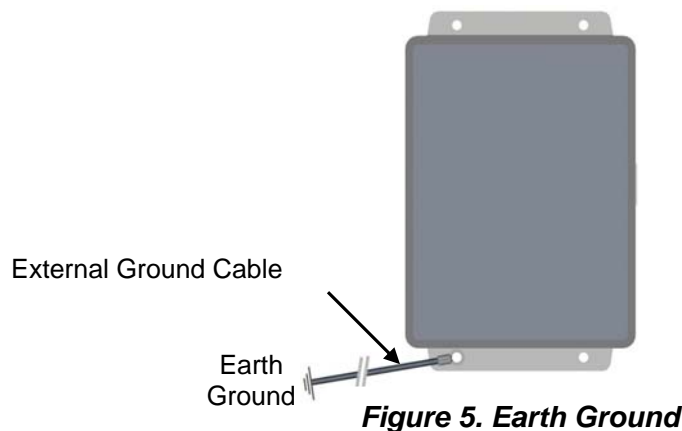

Figure 5. Earth Ground
- Option 2.** For SB142 Series Switch Boxes: When mounting the switch box to a non-grounded structure, ensure the shield ground wire or customer supplied ground wire is tied to a source of earth ground. (Figure 5)